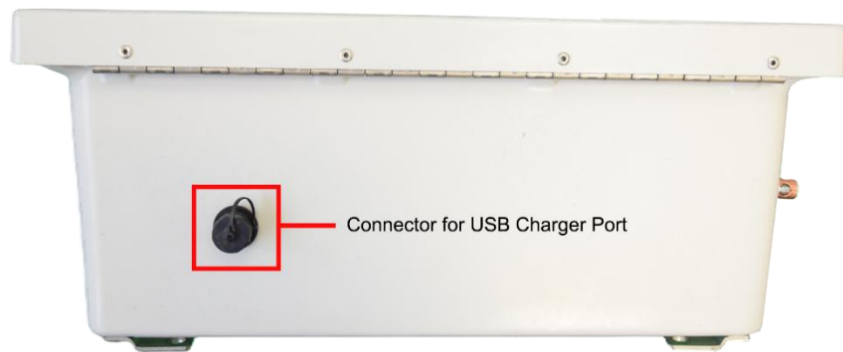

Figure 8: Connector for USB Charger Port Location
- To charge the battery, connect the mini-USB cable to the USB port located on the exterior left side of the enclosure (see Figure 8). Connect the USB-A end to a charging source.